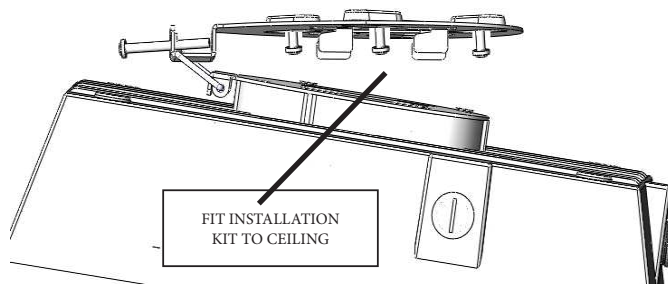

FIGURE 1
4. Fit the plate into the ceiling. **(Fig. 1)**